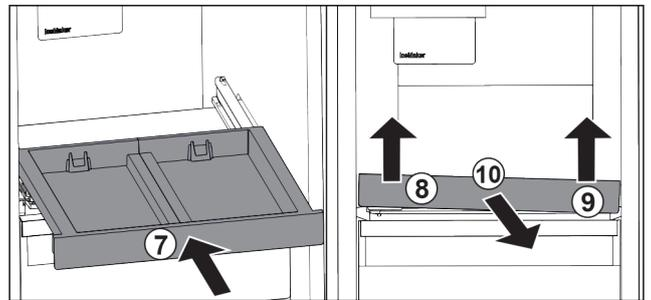

Fig. 27
- ▶ Slide in the pull-out board. Fig. 27 (7)
- ▶ Lift the pull-out board on the front left. Fig. 27 (8)
- ▶ Lift the pull-out board on the front right. Fig. 27 (9)
- ▶ Take out the pull-out board to the front. Fig. 27 (10)